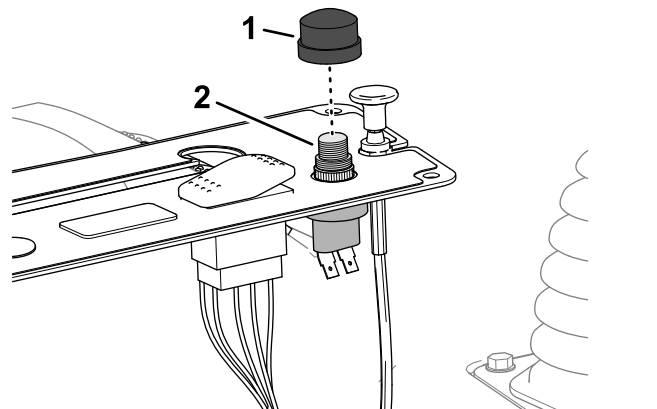

Figure 17
- Thread the switch button onto the horn switch (Figure 17).